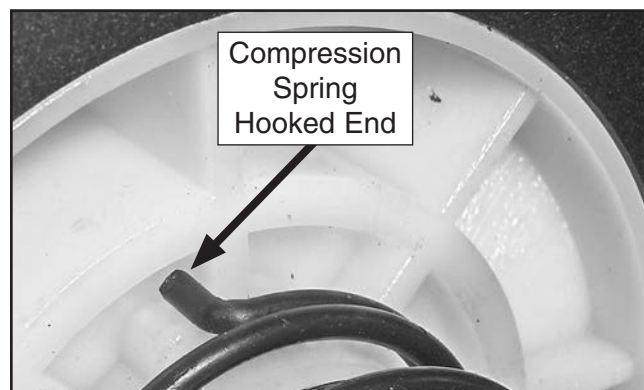

Figure 31. Hooked end of compression spring locked into driver gear shoulder.
23. Install compression spring (#49), ensuring hooked end is locked into driver gear (#54) shoulder, as shown in **Figure 31**.